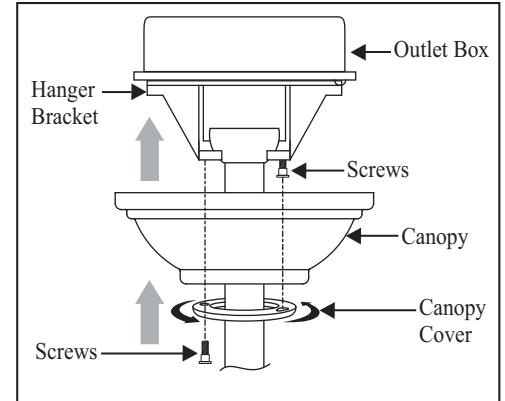

Figure 15
2. Slide the canopy up to mounting bracket and place the key hole on the canopy over the screw on the mounting bracket, turn canopy until it locks in place at the narrow section of the key holes. (Fig. 15)